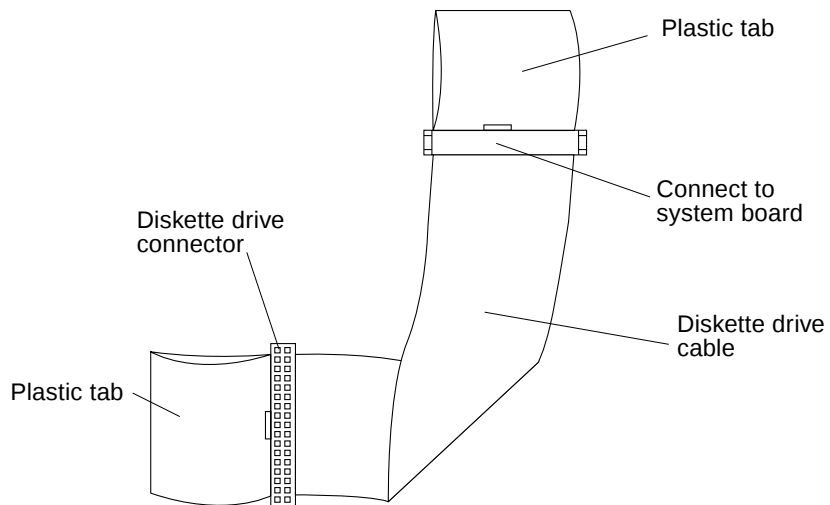

FIGURE 8-44 Diskette Drive Cable Plastic Tab
- 6. Pull the plastic cable tab to disconnect the diskette drive cable from the system board (FIGURE 8-44).**
Note – The replacement diskette drive cable should be folded at an angle to connect properly. See FIGURE 8-44.